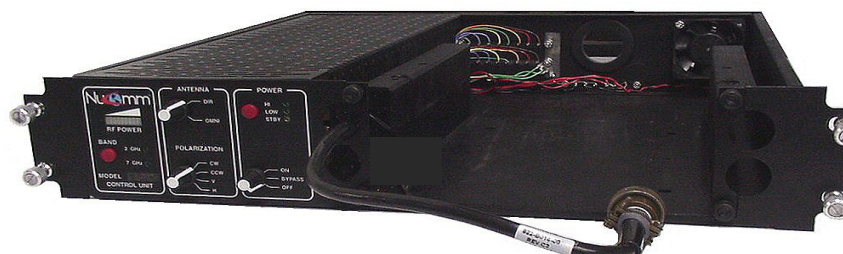

Figure 3-1: Control Drawer
3.2.1 Gather all components, parts list, and drawing to be used in the assembly of the Control Drawer (Figure 3-1) for the ChannelMaster with HPA. Ensure that all components match the documentation.